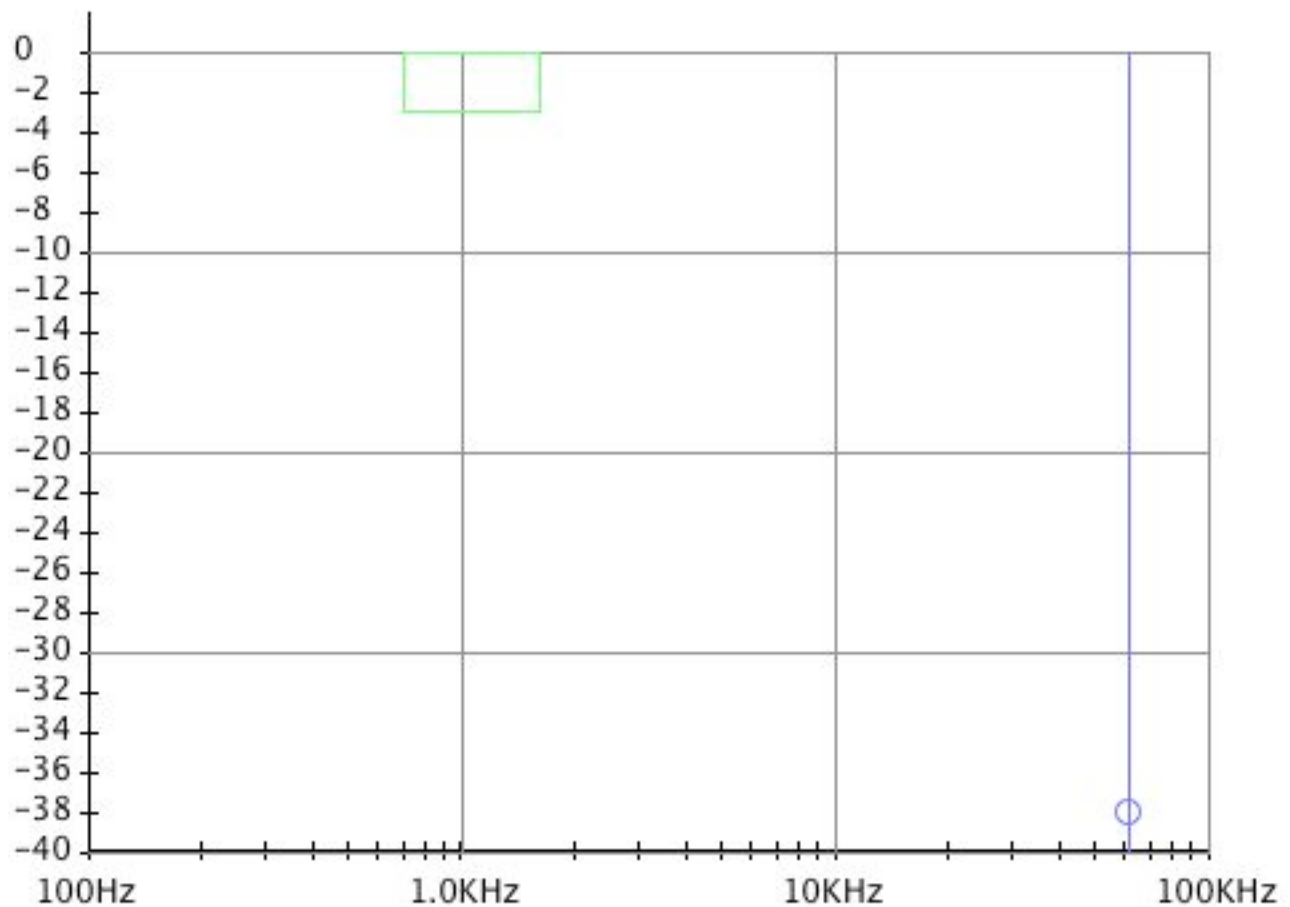

Figure 13 - Graph with 62KHz PWM signal & DTMF tone specification
3. Figure the required attenuation using the equations in Rule of Thumb #7, solving for a maximum and minimum value for A. Here, where a first order filter is being tested, the ripple will be triangular, the relationship $V \approx S * A * \pi / 2$ is most appropriate. Convert the attenuation values to decibels using $db = 20 * \text{Log}(A)$. Mark the vertical PWM frequency line with a mark corresponding to the decibel value. Figure 13 shows the template filled in for a 62KHz PWM signal and 100mV of ripple from a 5V PWM source. The value of A is .0126 which corresponds to about -38db. This design is based on the assumption that later amplifiers will attenuate the ripple more than it is, here.
4. Mark the required output signal response. To do this, mark a horizontal line along the 0db level from the minimum frequency to the maximum frequency. Then, add a second line immediately below the first, spaced down by the number of db of variation that you can tolerate. You should then have a rectangular space where you want your output amplitude to fall. Figure 13 shows what you would have if you try to generate a standard DTMF tone pair (low group is 697Hz to 941Hz and high group is 1209Hz to 1633Hz and the allowed amplitude difference between the low group and the high group is 3db).